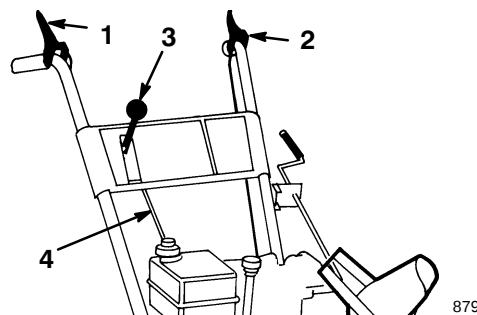

Figure 6
- Move the speed selector (Fig. 6) on the control panel to the R (reverse) position.
- Adjust the two flange nuts up or down on the traction control rod until the distance between the top of the handgrip and the bottom of the traction control lever (Figs. 6 and 7) is approximately 4 3/8 in. (11 cm).
- Move the speed selector (Fig. 6) into third gear.
3. Check the distance between the top of the handgrip and the bottom of the auger/impeller control lever (Figs. 6 and 9). The distance should be approximately four inches (10 cm).